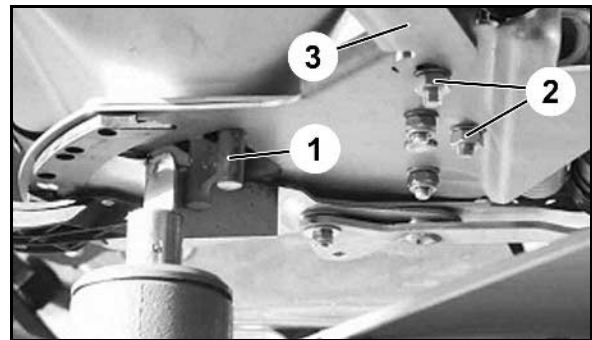

Fig. 9
1. Release the securing screws (Fig. 9/2) on the setting motor console (Fig. 9/3).
2. Insert the adjustment gauge (Fig. 9/1) into the outlet opening.
3. Swivel the setting motor console (Fig. 9/3) against the adjustment gauge and retighten the securing screws (Fig. 9/2).